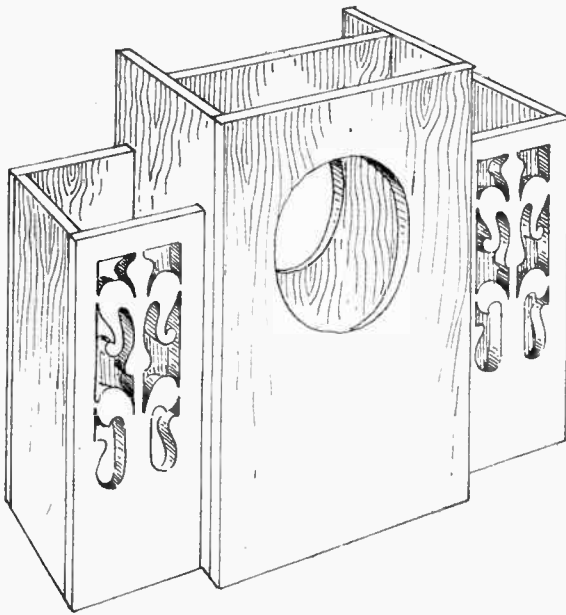

FIG. 2
Now we can add the two shorter parts which form the sides. Each of these is composed of a front, side and back, the two former having a fretwork design to cut out in them. A backing of Japanese veneer or a contrasting coloured wood should be added behind these frets to give a better effect. The side (B) is glued between the front and the back, and then this complete piece is glued in turn centrally on to the side of the main part. Glue also holds the part to the base and, as before, we can put in screws from underneath to provide strength. Thus we have a framework as illustrated at Fig. 2. Each of the three hollow parts has a double top, and in the case of the sides an angle bracket is added in the right-angle there found. Round the bottom of these side parts, too, a plinth is formed of $\frac{1}{4}$ -in. wood and these are glued round the solid parts immediately below the fretwork, the end butting between the back and front. Above the top member of the centre part there is a small pediment. This is glued
The whole operation is rapid and simple. Let us deal with the base first. Study Figs. 2 and 3, which are side and end elevation respectively. Cut a piece of wood to the size of the bottom, cut the side guides and screw them to it. For the uprights cut two pieces, 8 by 6 ins., and shape the top. These pieces are dovetailed into the sides. It will be noted that there are two holes for rods; these holes are not bored right through but only half way so that the rods cannot slip out. Do not